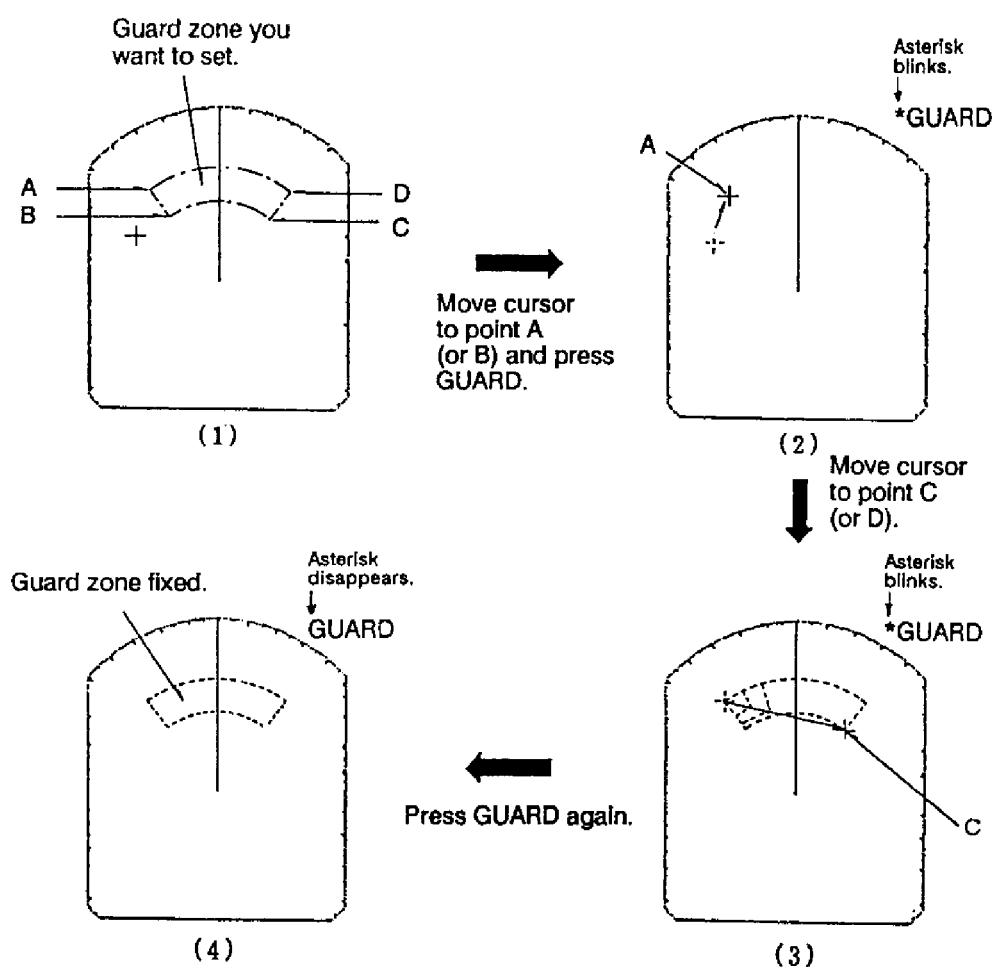

Figure 2-14 Setting Guard Zone
1. Mentally create the guard zone you want to display on-screen. See Figure 2-14 (1).
2. Set the upper (lower) left edge of the guard zone with the cursor. Press the **GUARD** touchpad. The indication "***GUARD**" (asterisk blinking) appears at the upper right-hand side of the screen. See Figure 2-14 (2). The asterisk indicates the guard zone is partially set, but the alarm function has not been actuated. It disappears once the guard zone is set completely.
3. Moving the trackball clockwise, set the lower (upper) right edge of the guard zone. The guard zone now appears on the display and the alarm function has been actuated. See Figure 2-14 (3).